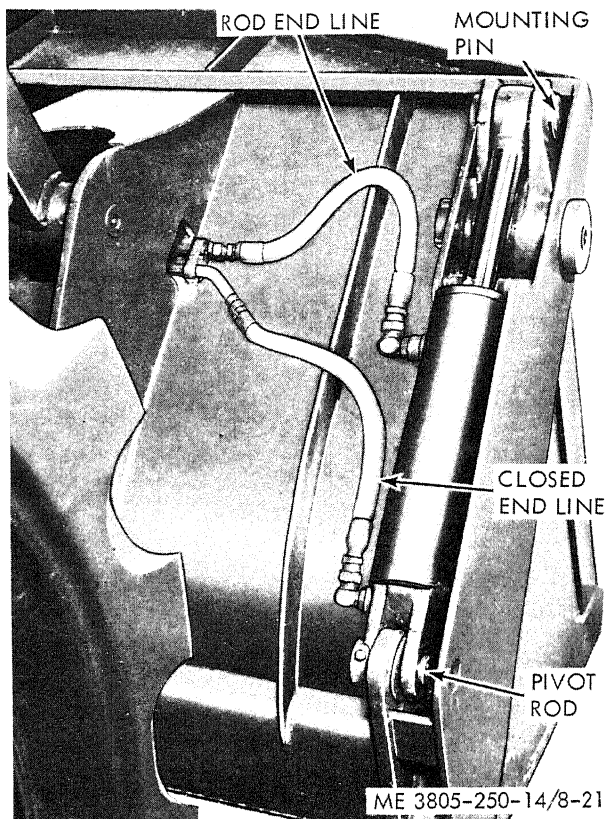

Figure 8-21. Clam cylinder, removal and installation.
c. Clam Cylinder Removal. Refer to figure 8-21.